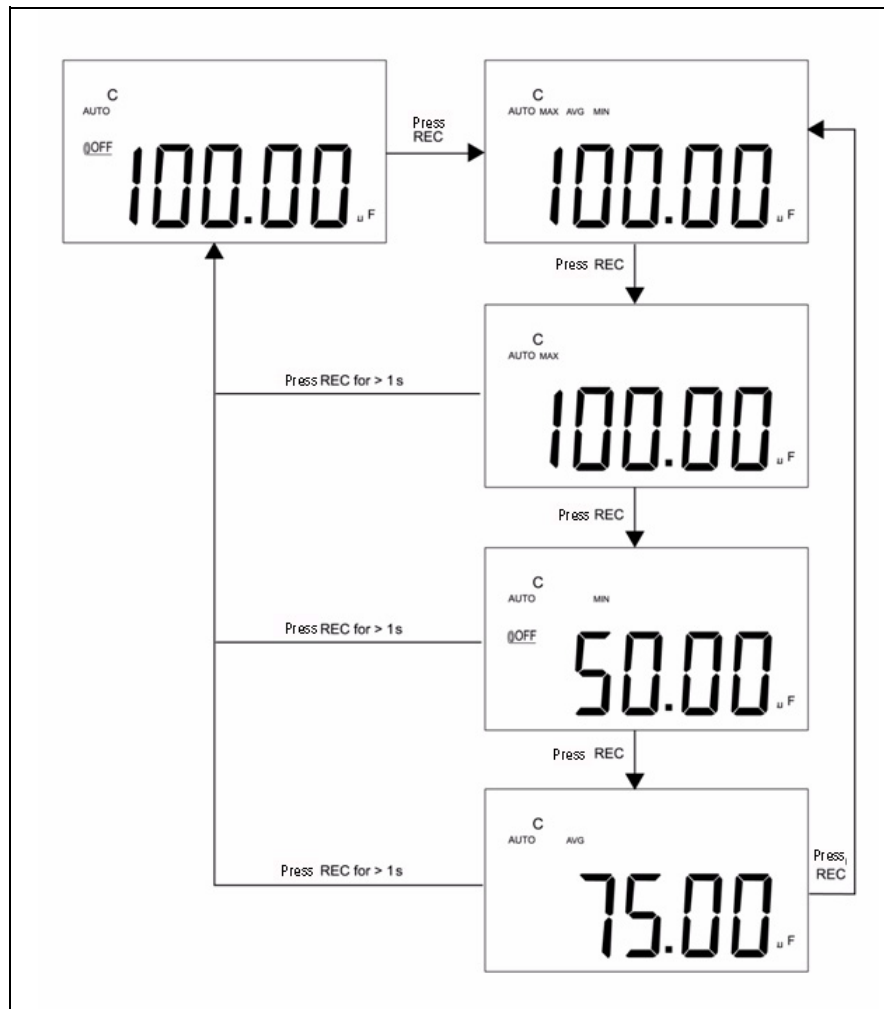

Figure 2-1 Tolerance operation
- 2** Press this key momentarily to cycle through maximum, minimum, average and present readings. The **MAX**, **MIN**, **AVG** or **MAX AVG MIN** annunciator turns on respectively to indicate which value is being displayed (see Figure 2-1).